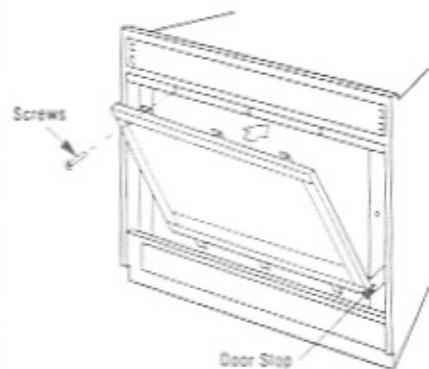

Figure 33
Position the door frame in front of the firebox opening, with the joint in the gasket down (Figure 33). Locate the three (3) tabs at the bottom edge of the door frame into the three (3) brackets at the base of the fireplace front opening. Lean the door frame back towards the fireplace ensuring that the gasket seats evenly as the door frame draws shut. Install the three (3) $\frac{1}{4}$ "-20 x 1" Phillips pan head screws removed previously and tighten to secure. Ensure that the tab on the bottom of the door frame engages the door switch.